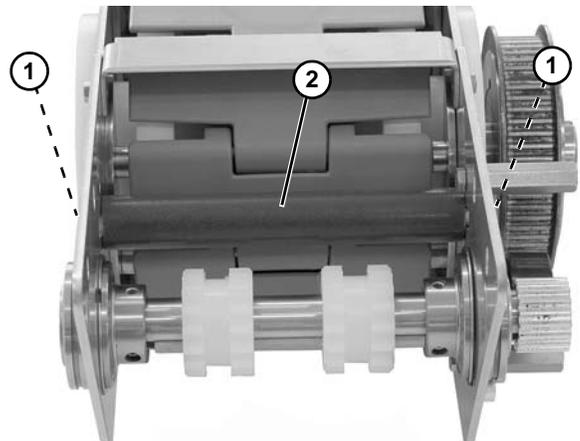

Figure 67
12. Remove hex head screws (Figure 67, item 1) and wear tube (Figure 67, item 2).